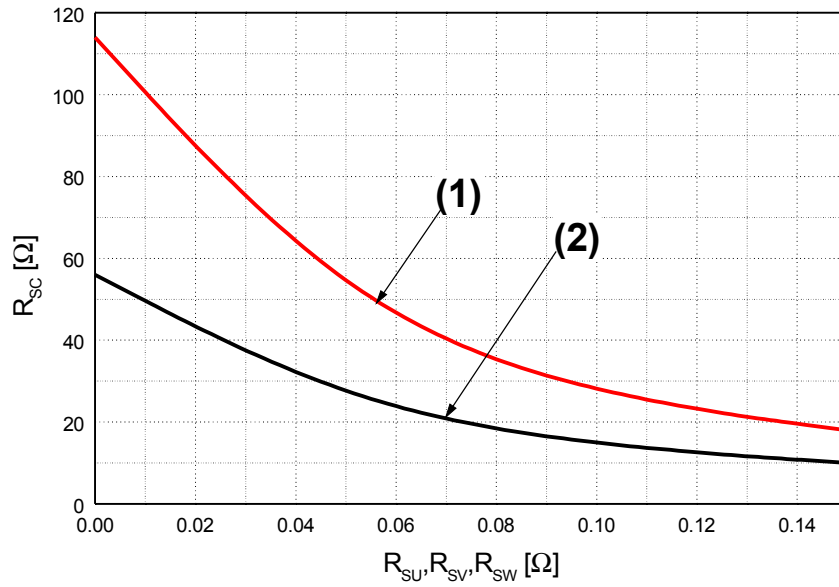

Fig. 7. R_{SC} Variation by change of Shunt Resistors (R_{SU} , R_{SV} , R_{SW}) for Short-Circuit Protection
5. Short-circuit current protection is functioning only at the low-sides. It would be recommended that the value of the external sensing resistor (R_{SC}) should be selected around 56 Ω in order to make the SC trip-level of about 15A at the shunt resistors (R_{SU}, R_{SV}, R_{SW}) of 0 Ω . For the detailed information about the relationship between the external sensing resistor (R_{SC}) and the shunt resistors (R_{SU}, R_{SV}, R_{SW}), please see Fig. 7.